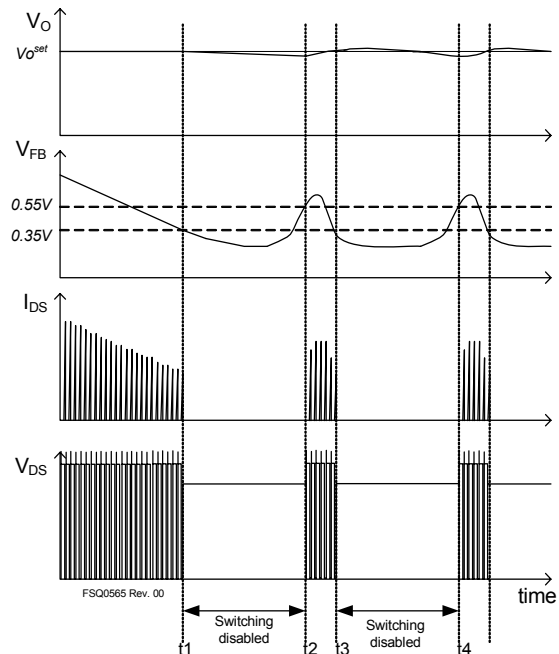

Figure 34. Waveforms of Burst Operation
**6. Burst Operation:** To minimize power dissipation in standby mode, the power switch enters burst-mode operation. As the load decreases, the feedback voltage decreases. As shown in Figure 34, the device automatically enters burst-mode when the feedback voltage drops below  $V_{BURL}$  (350mV). At this point, switching stops and the output voltages start to drop at a rate dependent on standby current load. This causes the feedback voltage to rise. Once it passes  $V_{BURH}$  (550mV), switching resumes. The feedback voltage then falls and the process repeats. Burst-mode operation alternately enables and disables switching of the power SenseFET, thereby reducing switching loss in standby mode.